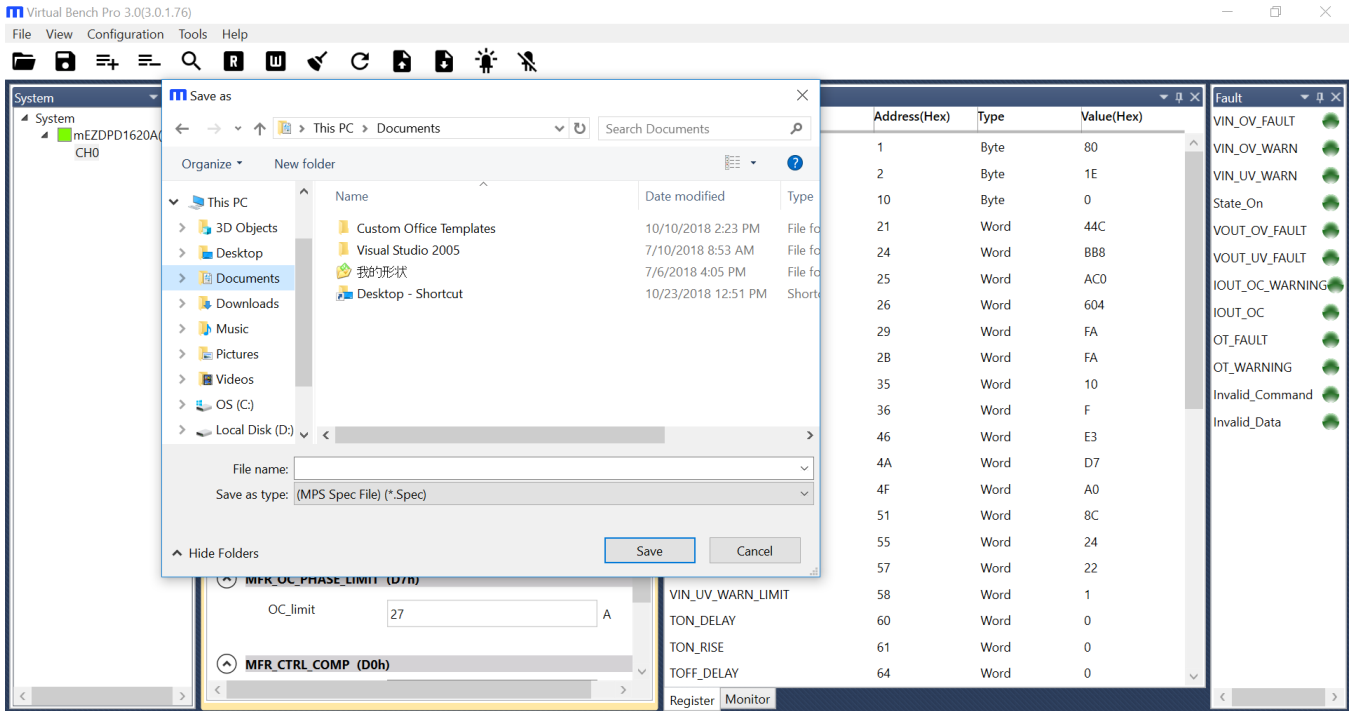

Figure 11: Select the Directory for Configuration File
6. Export the configuration by clicking “Save Project.” Select the desired directory for the exported file and click “OK.” New configurations will be saved in a text file (see Figure 11).